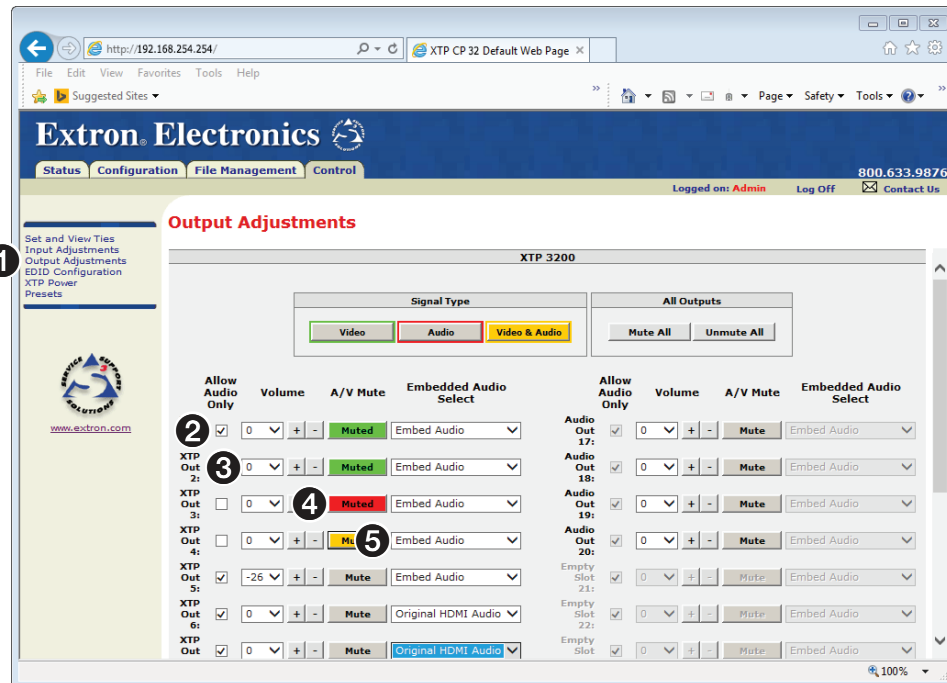

Figure 70. Output Adjustments Page
The **Output Adjustments** page is a central location for changing how output video and audio are processed and muted. Access the page by clicking the **Output Adjustments** link (see figure 70, ❶ on the next page) on the left of the **Set and View Ties**, **Input Adjustments**, **EDID Configuration**, **XTP Power**, or **Presets** page.